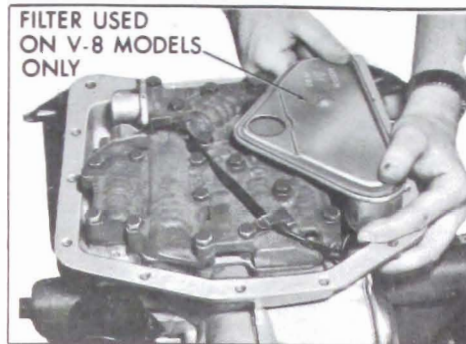

Figure 5-346
13. Install oil filter on V-8 models. See Figure 5-346.